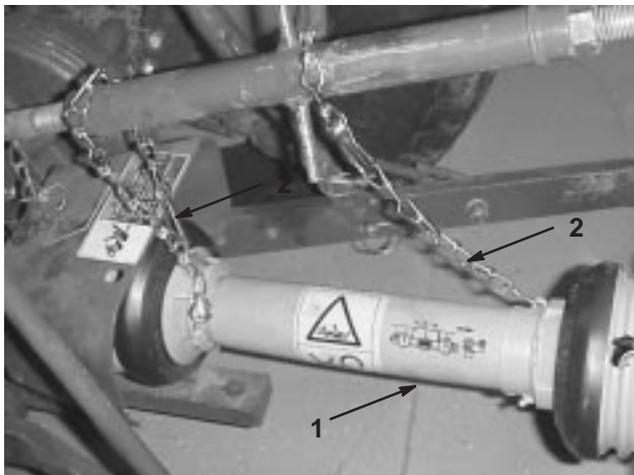

Figure 5
5. Connect the shield safety chains from the powershaft sections to the welded clips on the link arms or to the PTO shields (Fig. 5). Make sure that the chains remain slack when the blower is raised or lowered.